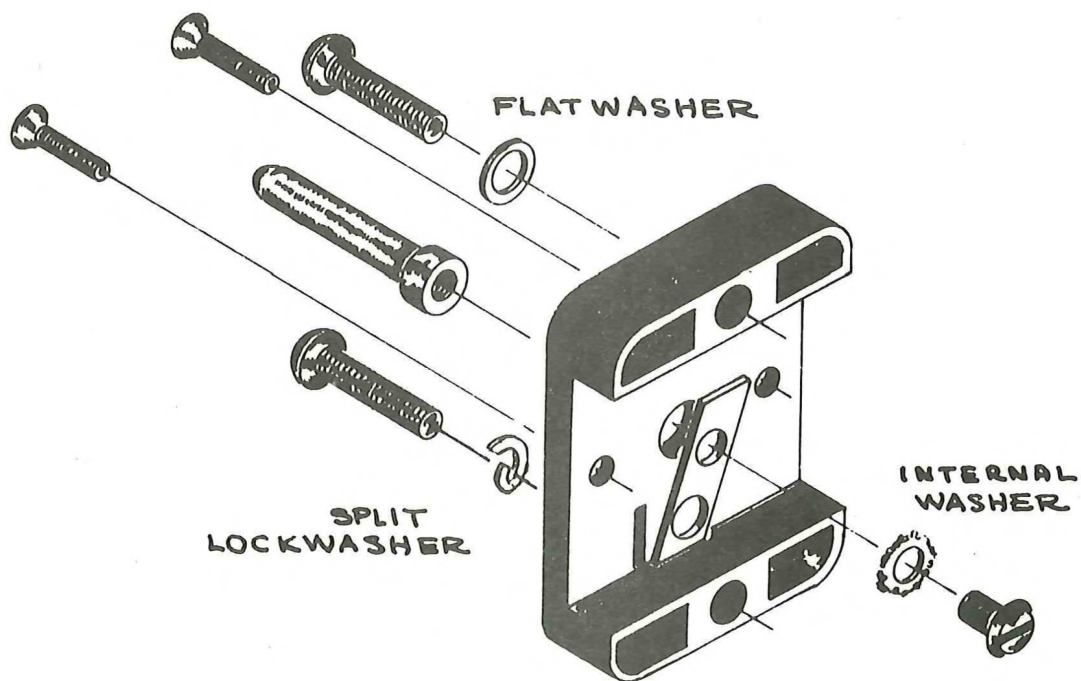

FIG. 2
- () 4. Assemble the new connector base as shown in Fig. 2, using the necessary parts from the old assembly.